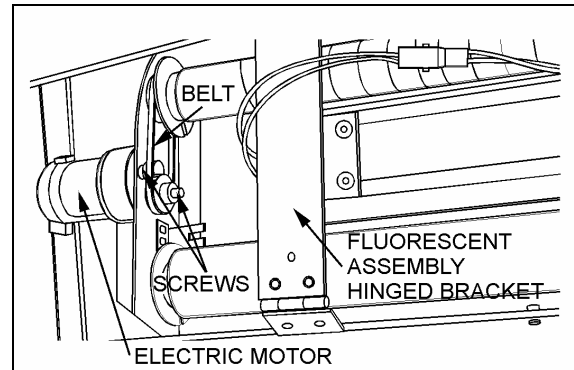

FIGURE 20: DESTINATION SIGN-ELECTRIC MOTOR 23034
3. Remove both screws retaining motor to destination sign frame (Fig. 20).